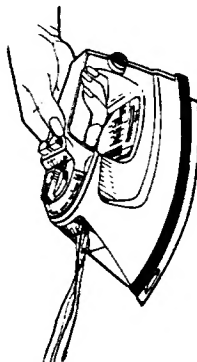

Fig. 15
2. To empty, tilt the iron slowly over a sink to a nose down position with the steam vents facing away from you. The water will run out of the Water Tank Opening (Fig. 15).